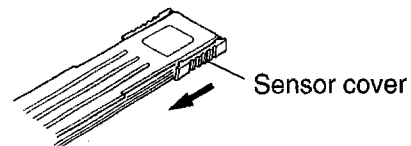

Fig. 17-2.
2. Slide the sensor cover of the laser power meter. Refer to Fig. 17-2.